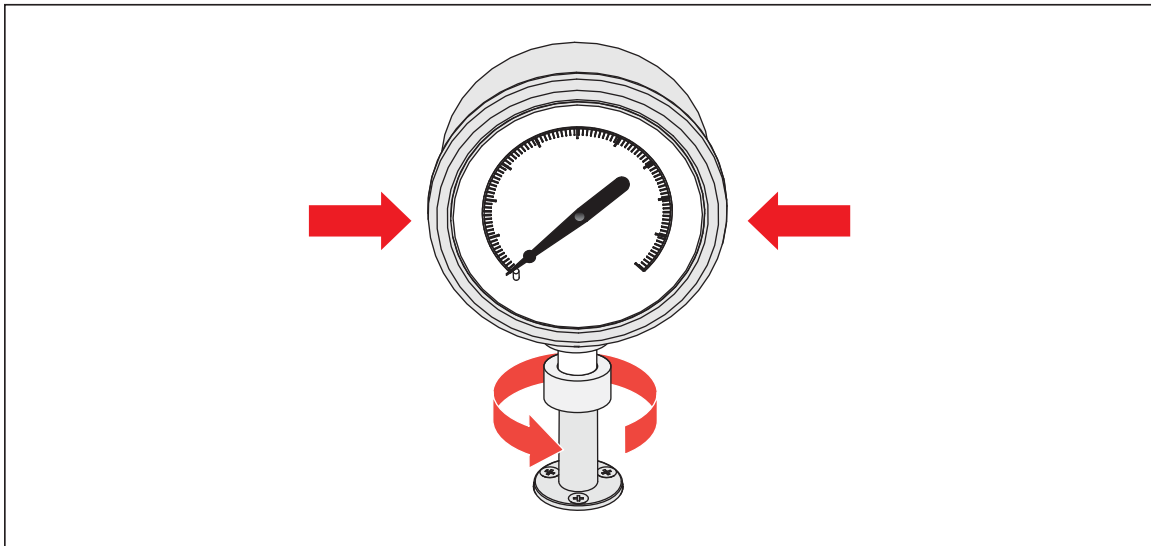

Figure 9. Tighten Gauge
4. Hold the instrument steady, while turning the gauge adapter COUNTER-CLOCKWISE until it pulls down onto the O-ring, see Figure 9.